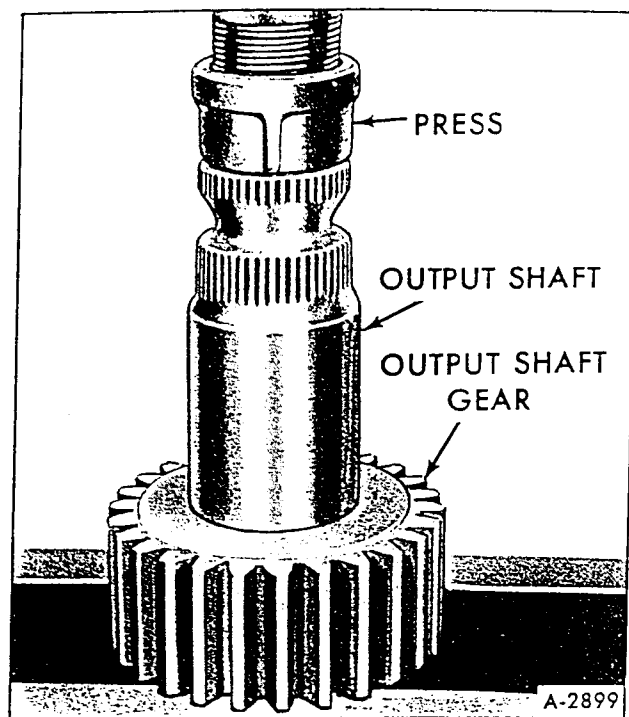

Figure 33 – Installing Output Shaft in Gear
11. If pinion gear was removed from output shaft, align timing mark on gear with marked spline on output shaft then press output shaft into the gear (fig. 33). Install a new retaining pin and secure with roll pin.